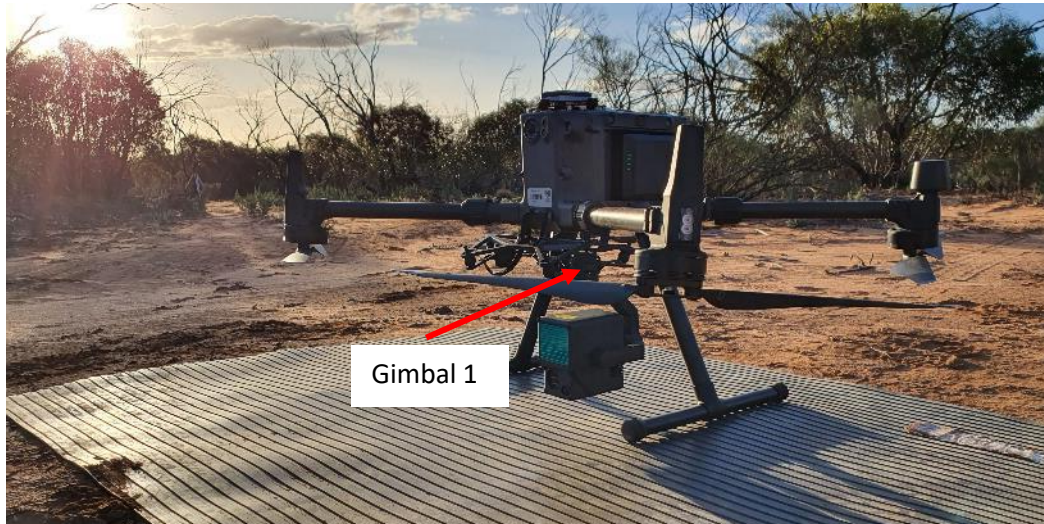

Figure 32: M300 with DJI Zenmuse L1 installed in gimbal 1.
- Connect L1 on Gimbal 1 (Figure 32). Press the gimbal detachment button to remove the cover. Align the white and red dots and insert the L1 sensor. Rotate the gimbal lock to the locked position.